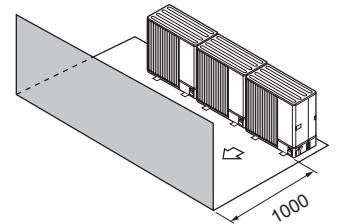

Fig. 2-32
- ③ Obstacles at front only (Fig. 2-32)